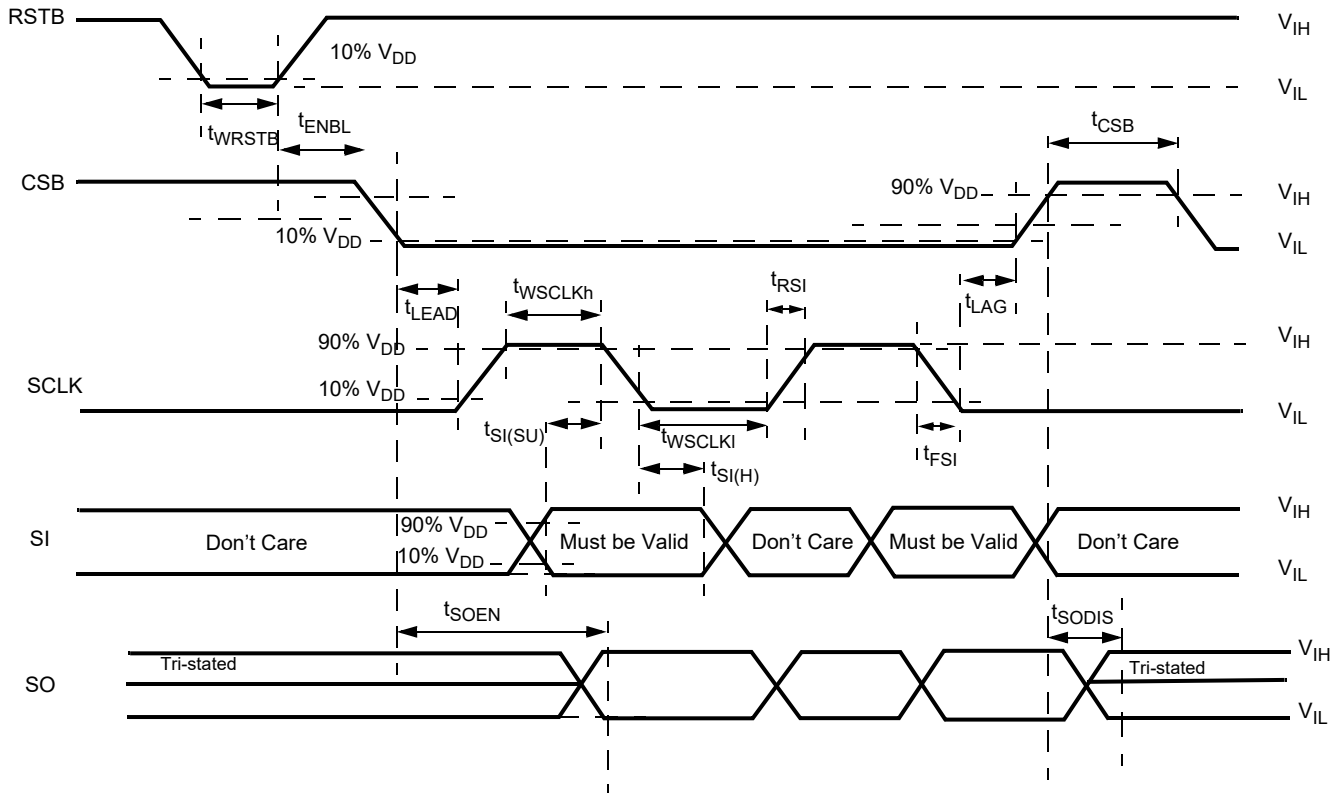
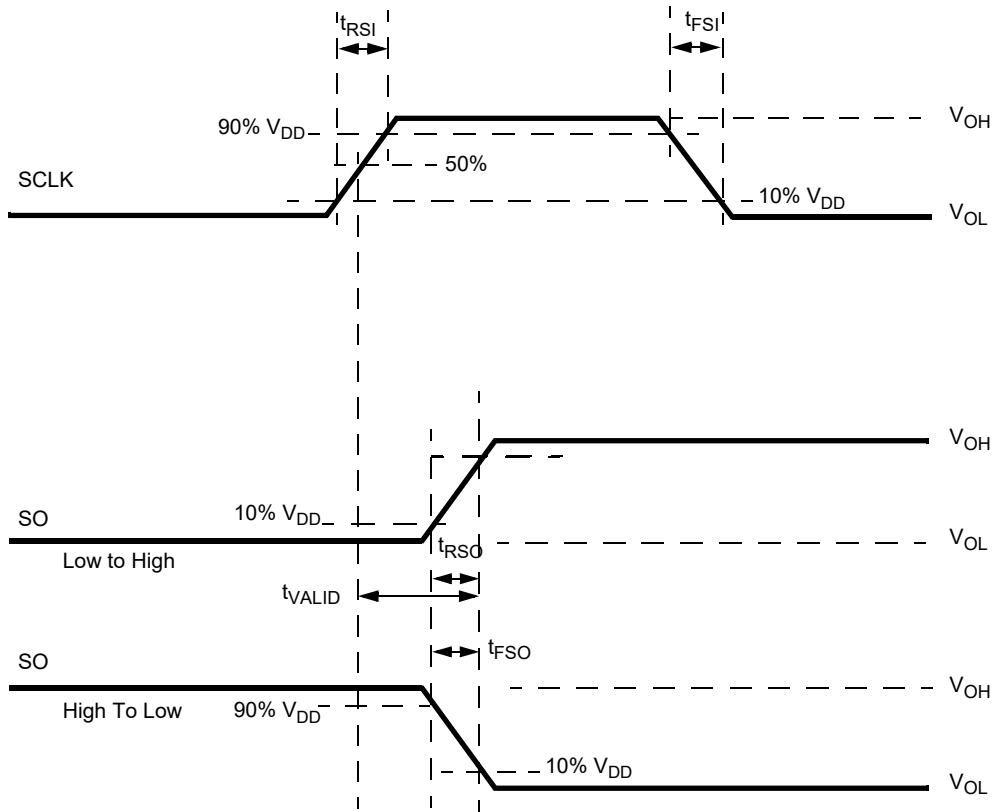

Figure 7. Timing requirements during SPI communication
Figure 8. Timing diagram for serial output (SO) data communication
Data communication over the SPI port is enabled when the CSB pin is in the logic [0] state. Data from the Input Shift registers are locked in the addressed SI registers on the rising edge of CSB. The device transfers the contents of one of the 8 internal registers to the SO register on the falling edge of CSB. The SO output driver is enabled when CSB is logic [0]. CSB should transition from a logic [1] to a logic [0] state only when SCLK is at logic [0] (Figure 7 and Figure 8). CSB is internally pulled up to V_{DD} through I_{UP} .
5.2.10 Serial input (SI)
Serial input (SI) data bits are shifted in at this pin. SI data is read on the falling edge of SCLK. 16-bit data packages are required on the SI pin (see Figure 7), starting with bit D15 (MSB) and ending with D0 (LSB). All the internal device registers are addressed and controlled by a 4-bit address (D9-D12) described in Table 11. Register addresses and function attribution are described in Table 12. The SI pin is internally connected to a pull-down current source, I_{DWN} .